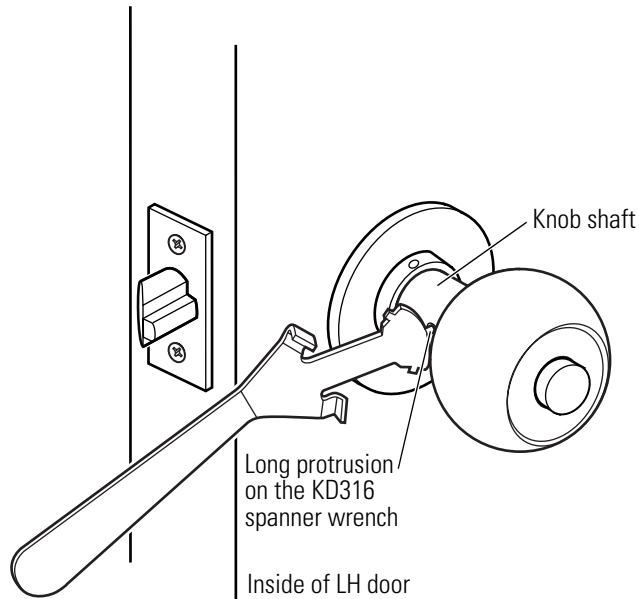

Figure 3.3 Removing the plain knob or button knob
1. Insert the long protrusion on the KD316 spanner wrench into the hole on the shaft of the knob, as shown in Figure 3.3.